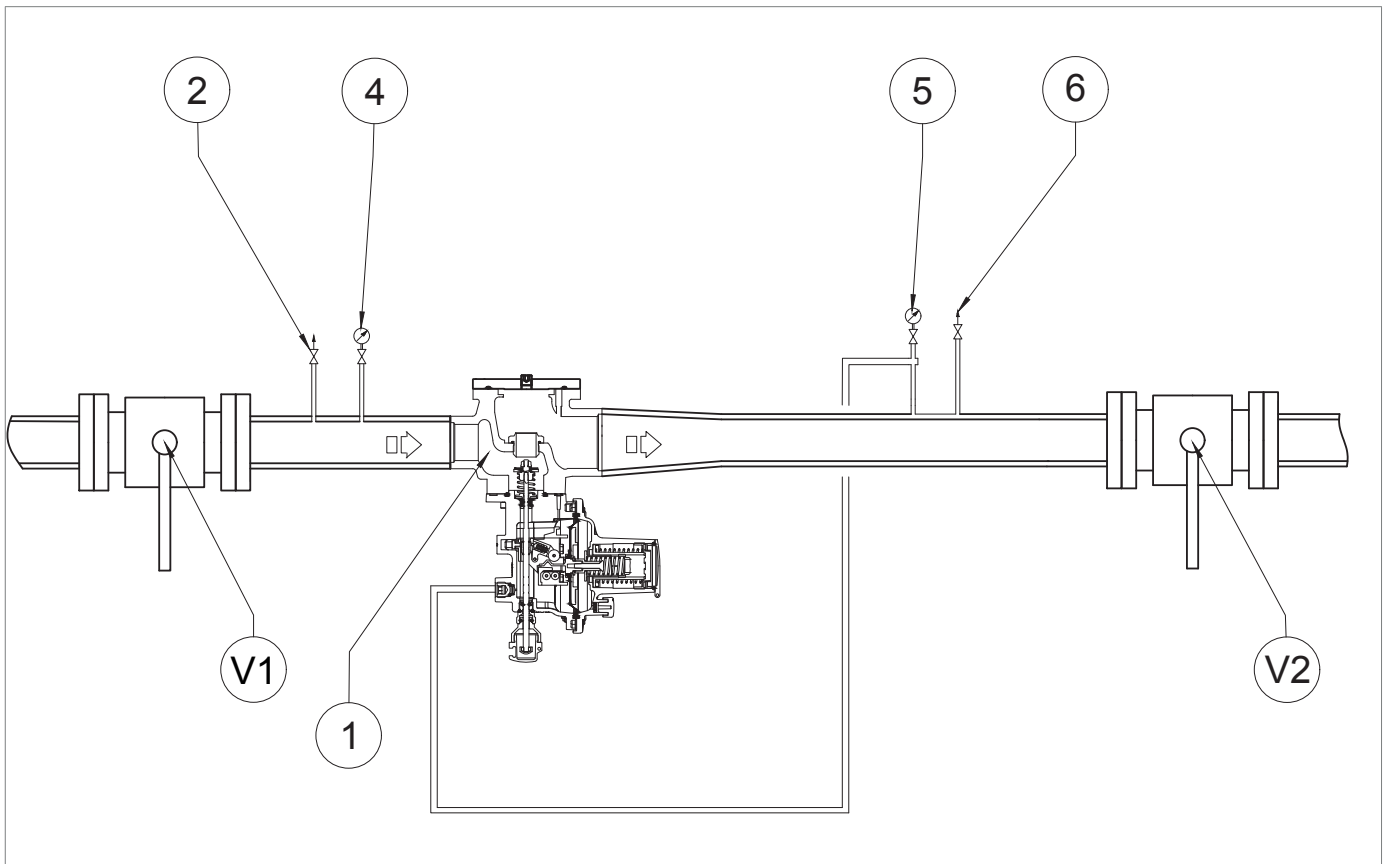
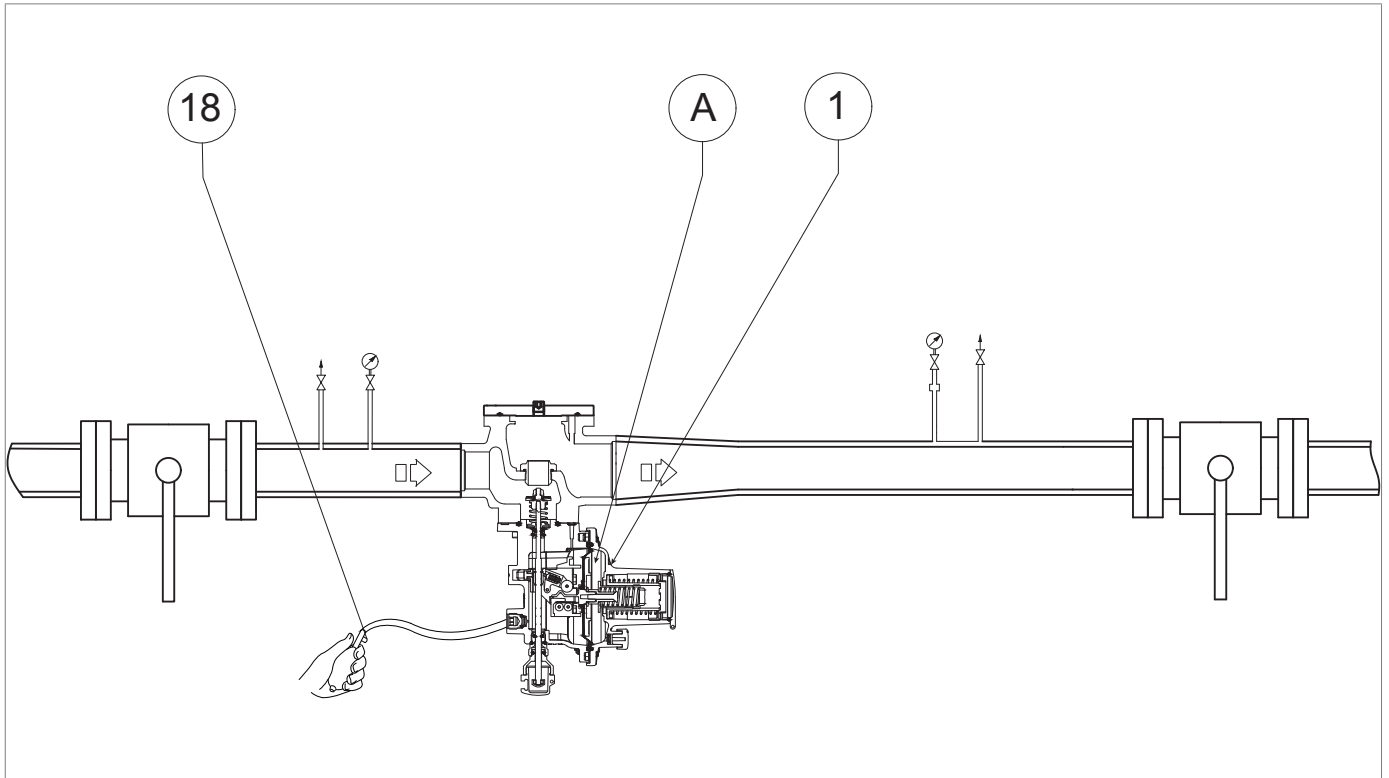

Fig. 1.14. Commissioning of DILOCK slam-shut valve installed individually
Fig. 1.16. External source pressurisation DILOCK individually installed
1	<p>Increase the pressure in the pressure switch body (C) to check that it is correctly calibrated, using an external pressure source (Fig. 1.16).</p> <div style="border: 1px solid blue; padding: 5px;"> <p>! NOTICE!</p> <p>Check the pressure referring to the downstream pressure gauge (Fig. 1.14, ref. 5).</p> <p>If the slam-shut valve:</p> <ul style="list-style-type: none"> • trips before the expected pressure value: screw in (clockwise) the adjustment ring nut (13) so as to further compress the spring (11); • does not trip at the expected pressure value: unscrew (anti-clockwise) the adjustment ring nut (13) so as to relieve the spring (11). </div>
2	Decrease the pressure in the pressure switch head using the drain cock (18) of the external source or the drain cock (Fig. 1.14, ref. 6)
1	Partially open the bleed cock (Fig. 1.14, ref. 6) and keep it open for the next steps.
2	<p>Decrease the downstream pressure to the minimum required slam-shut valve pressure.</p> <div style="border: 1px solid blue; padding: 5px;"> <p>! NOTICE!</p> <p>Check the pressure referring to the downstream pressure gauge (Fig. 1.14, ref. 5).</p> <p>If the slam-shut valve:</p> <ul style="list-style-type: none"> • trips before the expected pressure value: unscrew (anti-clockwise) the adjustment ring nut (15) so as to relieve the spring (17); • does not trip before the expected pressure value, screw in (clockwise) the adjustment ring nut (15) so as to further compress the spring (17). </div>
3	Close the bleed cock (Fig. 1.14, ref. 6).
5	To reset the slam-shut valve, increase the downstream pressure (Pd) of the line, using an external pressure source (Fig. 1.16).